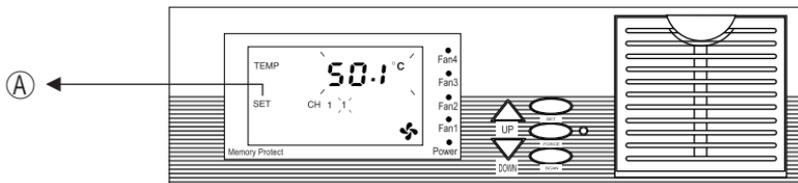

Figure 4
1) Pressing the SET button two times. opens the set mode for sensor channel 1. On the LCD display, SET and 1 are displayed (Figure4-Ⓐ), and the temperature setting is blinking.